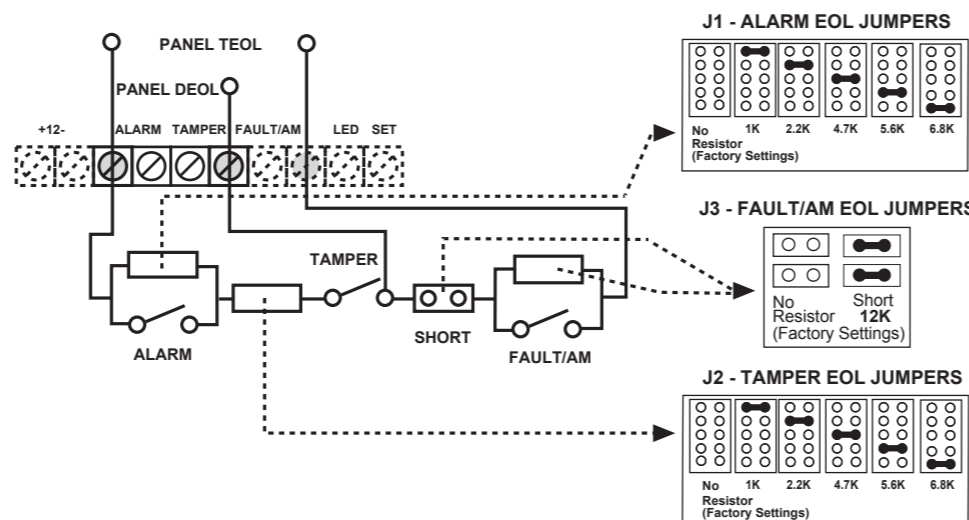

Figure 4.
2. The MW range can be adjusted by using the potentiometer located on the PCB. It is important to set the potentiometer to the lowest possible setting that will still provide enough coverage for the inner boundary protected area (see Figure 4).
MW range adjustment (Figure 4)